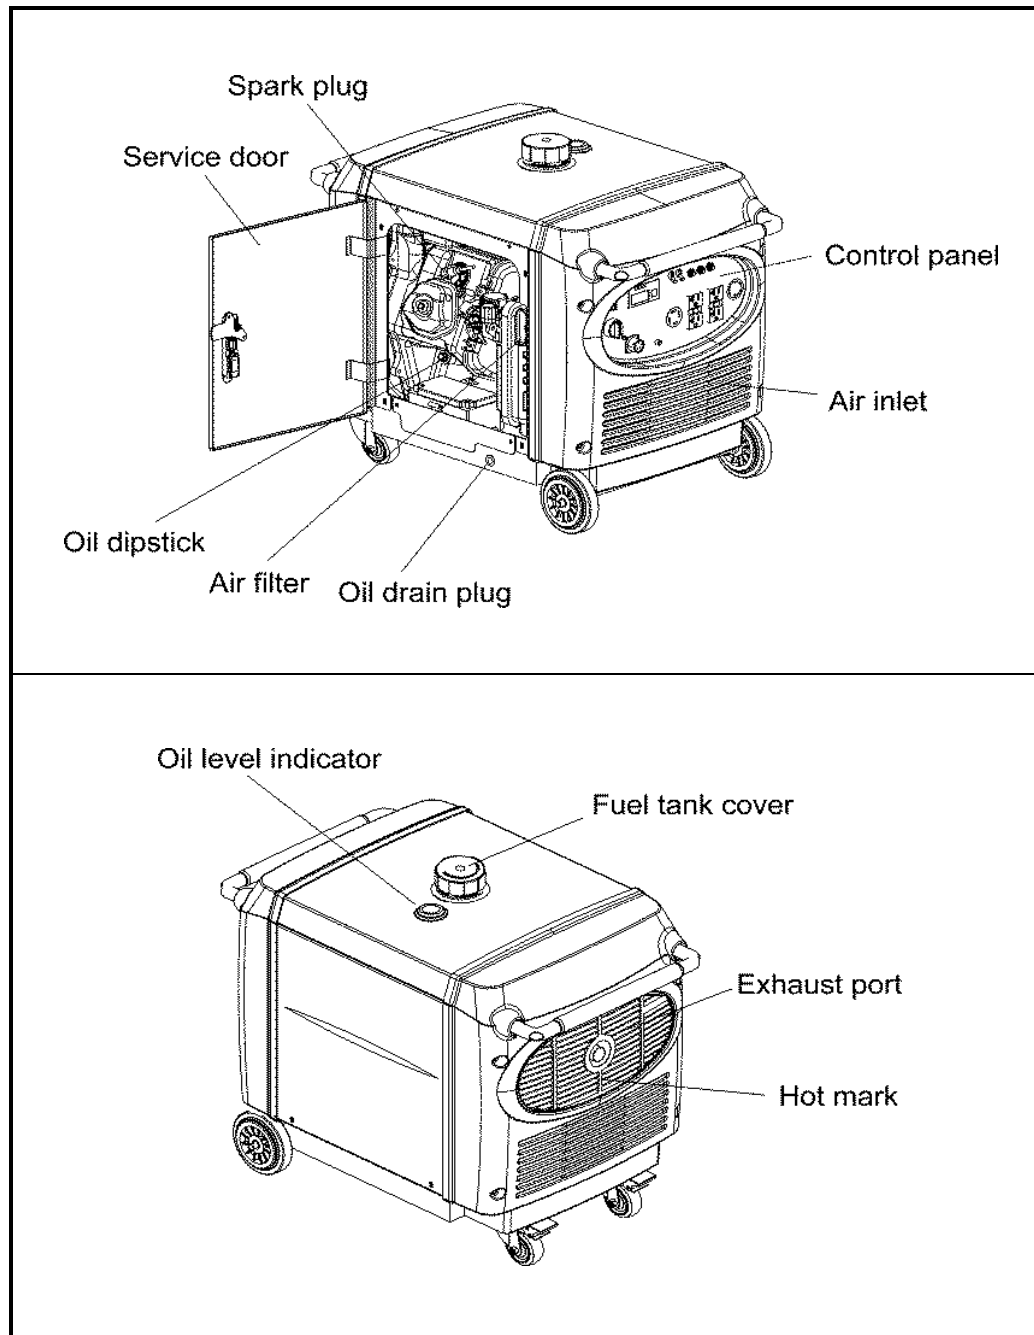

Figure 1 Outline drawing
2.1 Outline drawing (Figure 1)